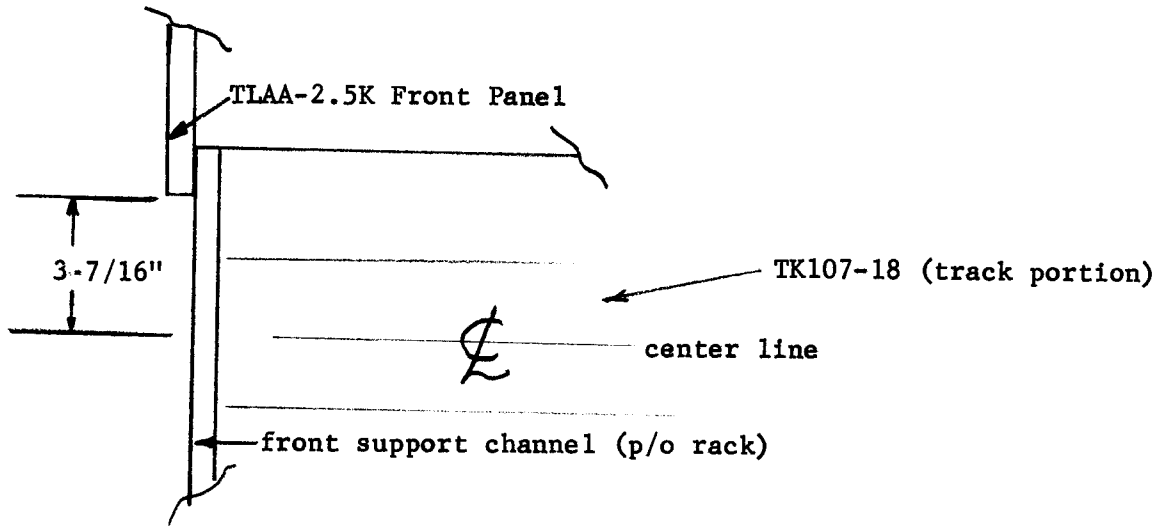

Fig. 6 Mounting of the "track" portion of TK 107-18.
- Step 19: Mount the track portion of TK107-18 in the transmitter with the hardware and brackets supplied. The center of the track portion of TK107-18 should be located 3-7/16 inches down from the bottom of the front panel of the TLAA-2.5K (Fig. 6).